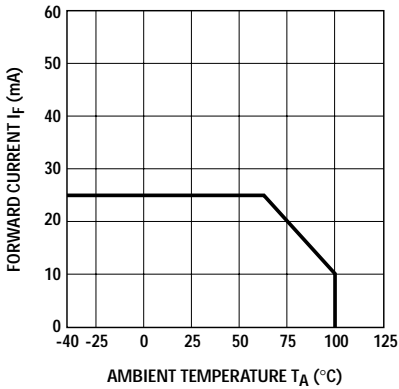

Figure 11. LED Forward Current vs. Ambient Temperature, HCPL-3100.
- Derate absolute maximum ratings with ambient temperatures as shown in Figures 11 and 12.